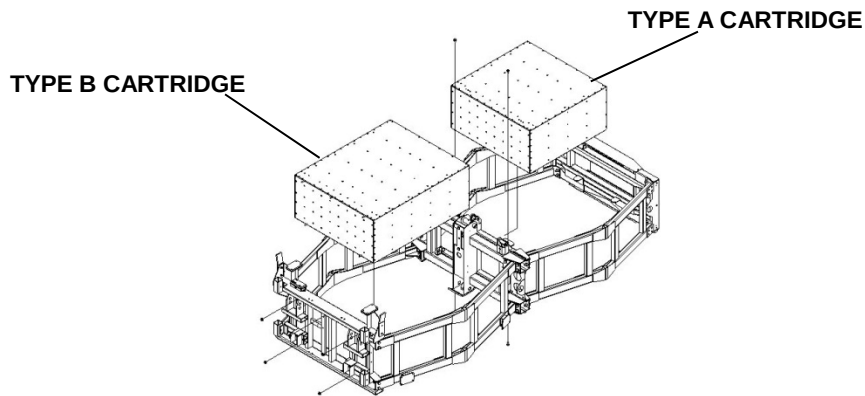

Figure 17
4) Assemble Cartridges (p. 19, Figure 17)